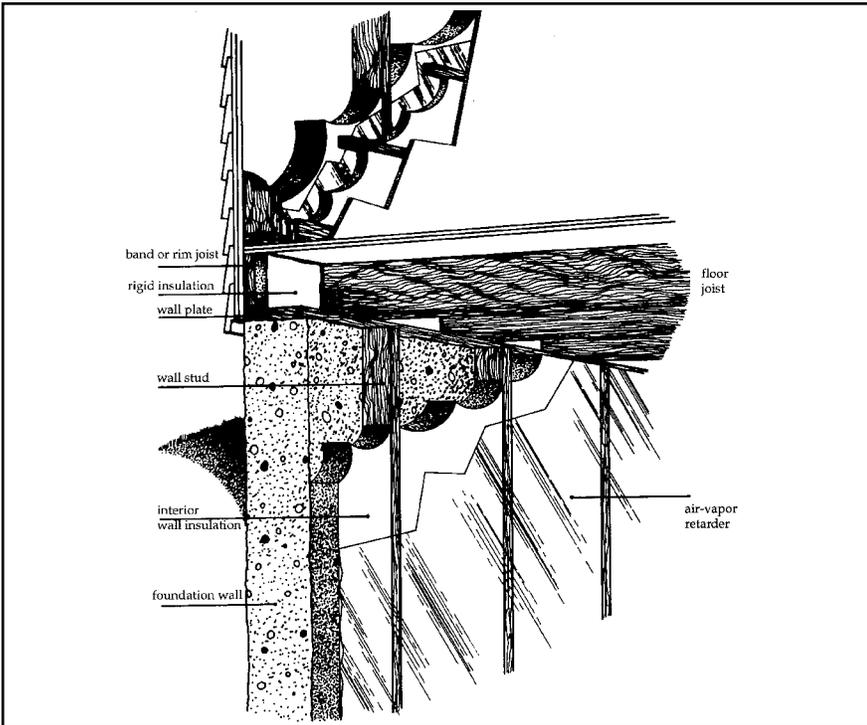

Figure 2
- The rim joist where the exterior framing meets the floor joists is a critical area to insulate and air seal, and it is often a major source of heat loss. One way to handle the problem is to first seal the rim joist against air leaks and then insert pieces of rigid insulation between the joists, covering them with sheet rock to meet fire protection standards (See Figure 2 ). The rim joist can also be insulated on the exterior. Discuss this with your builder.